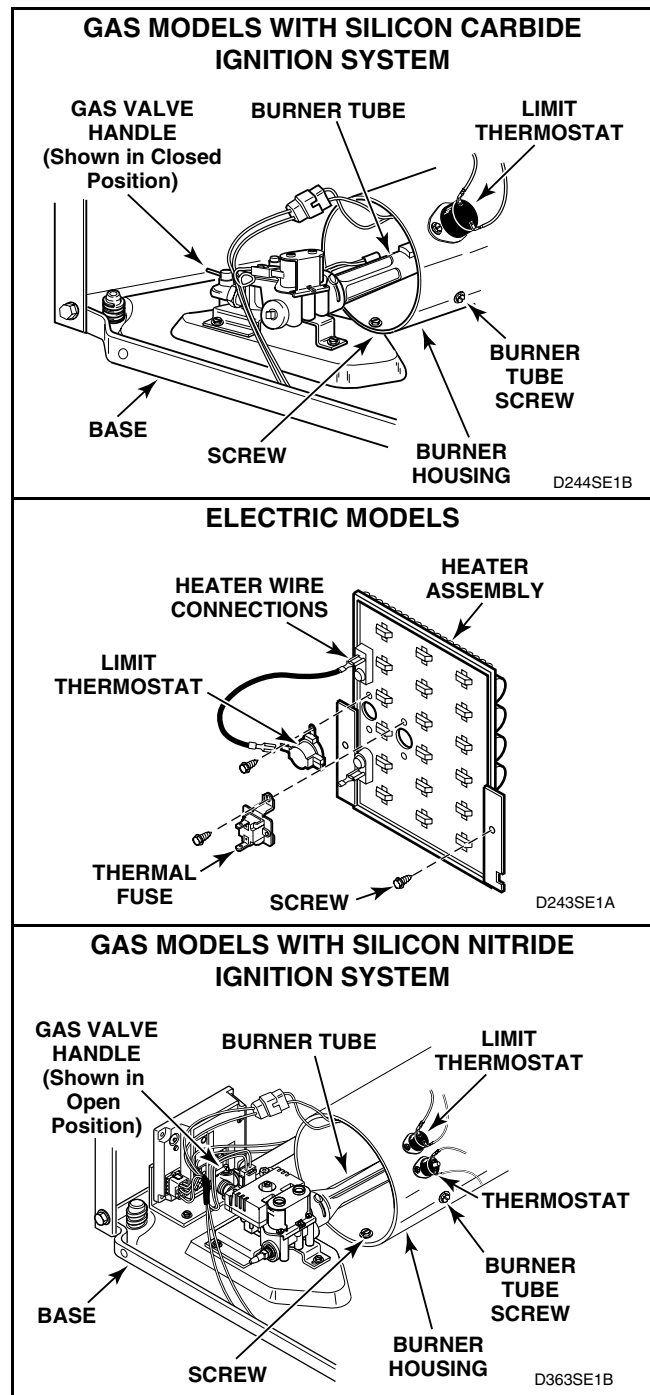

Figure 16
- Remove screw from right side of burner housing, while holding burner tube in place. Refer to *Figure 16*.
- Gently move burner tube toward rear of dryer to disengage tab from slot on left side of burner housing. Refer to *Figure 16*.
- Remove screw holding front of burner housing to dryer base and remove housing out through front of dryer. Refer to *Figure 16*.
- Disconnect wires and remove screws attaching limit thermostat to burner housing or element plate. Refer to *Figure 16*.
- Disconnect wires from element and plate. Refer to *Figure 16*.
- Remove two screws holding element and plate to heater box and remove element and plate out through front of dryer. Refer to *Figure 16*.
1. Label and disconnect wires from thermal fuse. Refer to *Figure 16*.